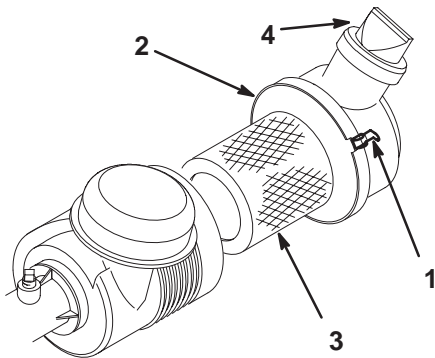

Figure 28
Squeeze the vacuator (Fig. 28) before each use to clear it of dust and debris.
4. Loosen the air cleaner strap securing the air cleaner cover to the air cleaner body (Fig. 28) and separate the cover from the body.
3. Install the cover and secure the strap (Fig. 28).